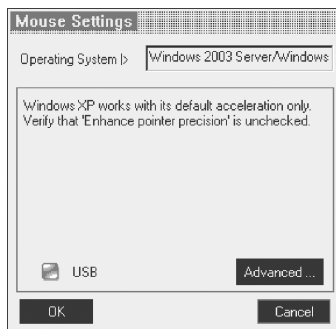

Figure 32 Mouse Settings Dialog box
1. From the toolbar, click  / Manual Settings". The "Mouse Settings" dialog box appears (see Figure 32).